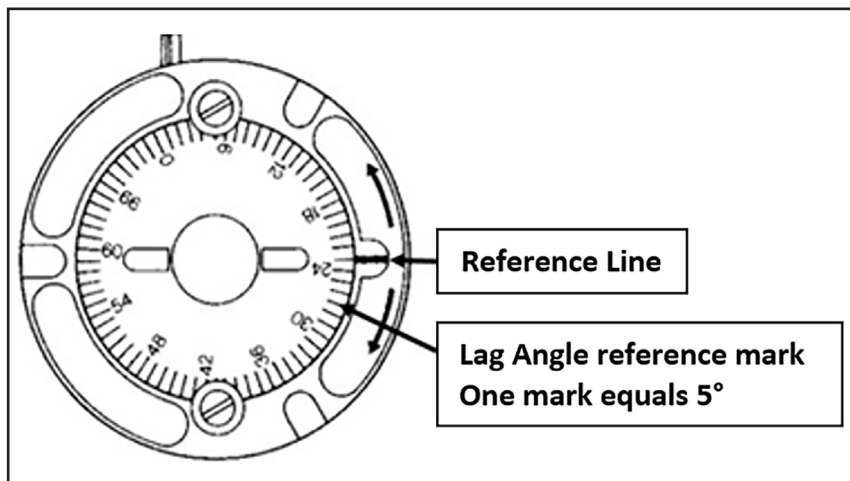

Figure 6.12 – Lag Angle Reference
- (1) Confirm that primary contact assembly (11) has been set to E-Gap. Secondary contact assemblies (11) are set using the primary contact assembly for reference. Secondary contacts cannot be completed if the primary contact assembly is not aligned as detailed in § 6.13.E.
- (2) Remove the magneto from the ES125T Assembly Base.
- (3) Reinstall the degree disc into the bottom of the ES125T Assembly Base and loosely clamp in place with screws and washers included with ES125T Assembly Base. The disc should be retained by the screws and washers but free to turn.
- (4) Install the ES123T Timing Drive Adapter onto magneto rotor (7) shaft.
- (5) Set the magneto rotating magnet to the E-gap position as detailed in § 6.13.E. Hold the magneto in the E-Gap position and insert so that the drive lugs of the impulse coupling assembly (4) or the ES123T Timing Drive Adapter insert into slot in timing disk.
- (6) Left Hand rotation magnetos only: Turn magneto and timing disk together counter- clockwise with the magneto in the E-Gap position until the stop pin on the ES125T Assembly Base contacts the left side of the magneto frame (6). Proceed to Step (8).
- (7) Right Hand rotation magnetos only: Turn magneto and timing disk together clockwise with the magneto in the E-Gap position until the stop pin on the ES125T Assembly Base contacts the right side of the magneto frame (6).
- (8) Hold the magneto and ES125T Assembly Base and invert the assembly, taking care not to let to magneto or timing disk move out of position. Tighten one timing disk screw to hold the disk in place. When the disk is secured, remove the magneto from the ES125T Assembly Base.
- (9) Make a mark on the timing disk to align with the index mark cast into the ES125T Assembly Base. This mark is the reference point for E-Gap for the magneto that is being assembled. This mark may not be used for other magnetos and a new reference must be established for each subsequent magneto that requires secondary contact assembly (11) timing.
- (10) Identify the lag angle of magneto from the number marked on the data plate in the box labeled LAG. Each mark on the ES125T Assembly Base timing disk represents five degrees. The timing disk will be turned to align a timing mark with the index mark cast into the ES125T Assembly Base to establish the correct position to use as a reference point to set the secondary contact assemblies (11). Figure 6.12 and Table 6.4 shows how the secondary contact assembly lag angle corresponds to the marks on the disk.